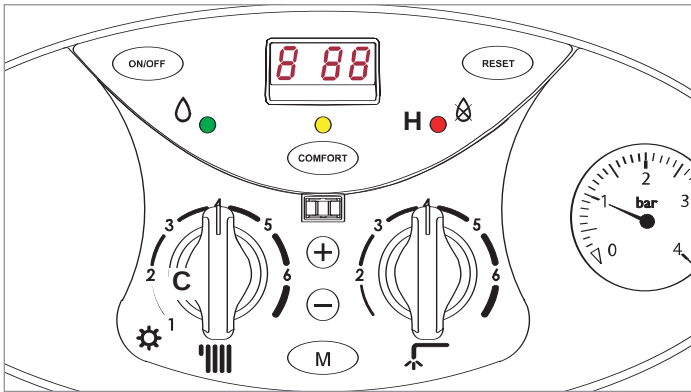

FIG. 3.5
- push the On/off button **ON/OFF** and turn the knob "C" (Fig. 3.5) to the "winter" position. The boiler pump will start up and three consecutive attempts will be made to ignite the burner. After the third attempt, the electronic system will shutdown the boiler, because the supply of gas has been cut off. The message "R 0 1" will appear on the display and the red LED "H" will illuminate;